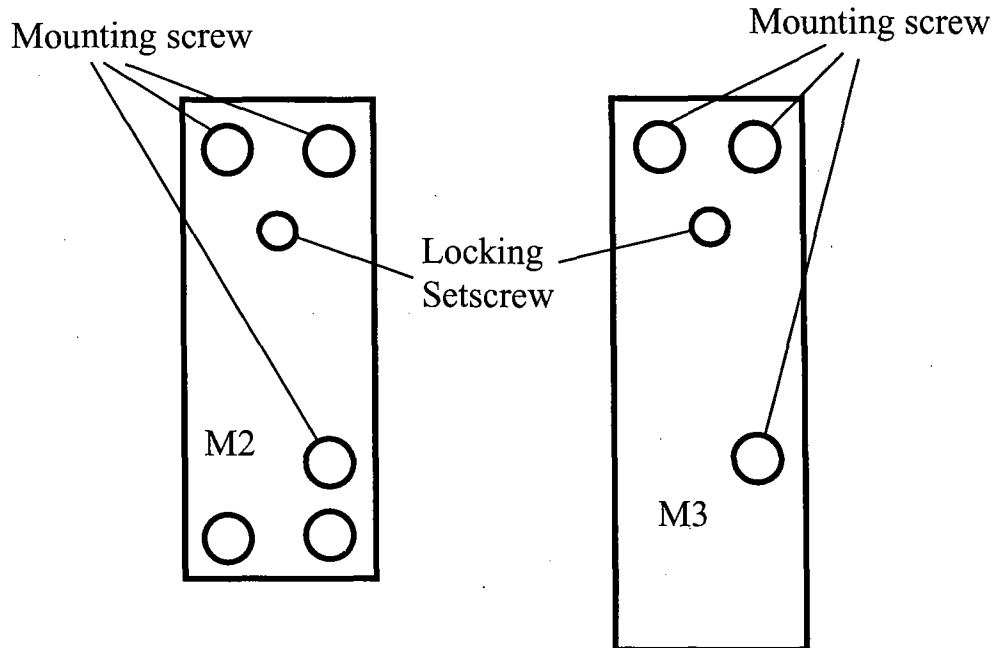

Figure 9. Adjustment of the mirror M2 and M3.
25. As shown in figure 9 the mirror M2 and M3 can be adjusted by the three mounting screws and a locking setscrew. Slowly adjust the mounting screws and the locking setscrew to move the laser beams to the center of the SHG crystal and make sure the mirrors are firmly locked.